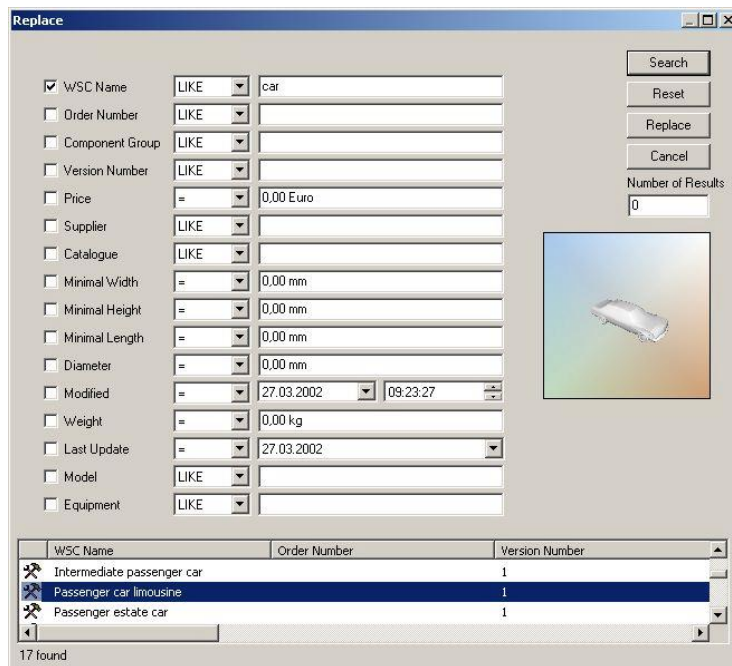

Figure 88: Finder: Replace System Item
- 2) The Finder with the Replace function will then open. Once you have found the objects (system item) you are looking for, select the required object. Please refer to the Figure 88.
- 3) Confirm your selection with *Replace*. Please refer to the Figure 88.